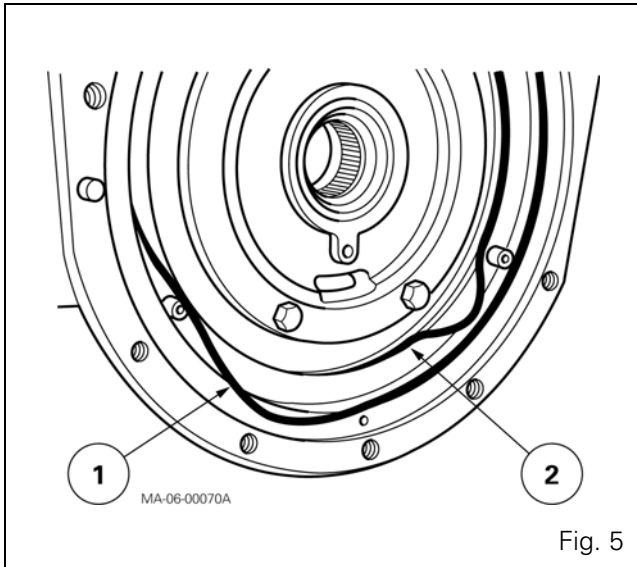

Fig. 5
5. Remove the O'rings (1) (2) on the housing and discard them (Fig. 5).